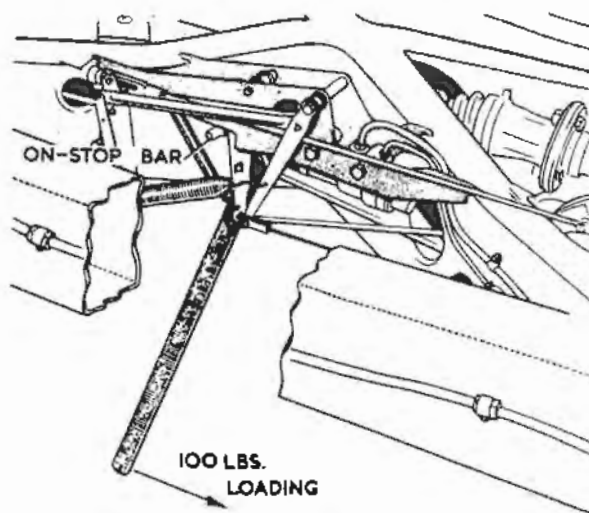

Fig. G.5.—Lever RH.322 in Position.
- (iii) Fix a spring balance to the lever and operate the master cylinder with a pull of 100 lbs. as shown in Fig. G.5. Measure the length that the push rod has travelled from rest. In the rest position the on-stop bar (Fig. G.5) should be 1.60" from the edge of the master cylinder mounting bracket and the travel of the push rod with 100 lbs. pull on the lever (RH.322) must not exceed .85". If the travel exceeds this figure the brakes should be bled again and the test repeated.